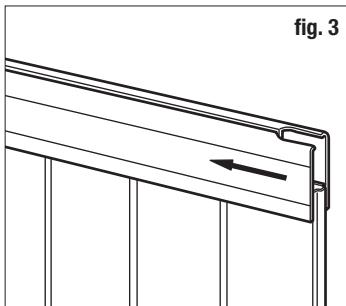

fig. 3
- At the top of the picket assembly, slide the H-rail over the top of the pickets (fig. 3).